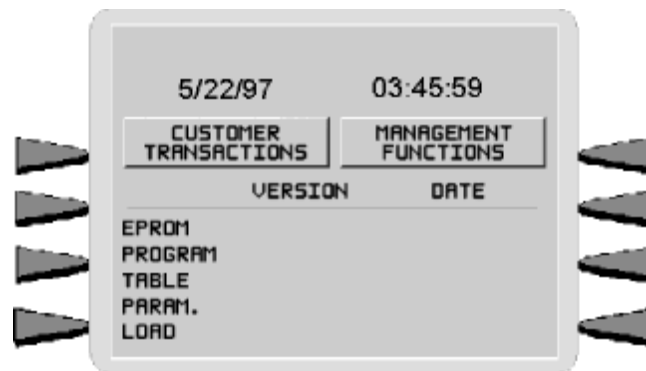

Figure 3-1. The TOP MENU display.
When the unit is turned on, the dispenser will beep once and the Top Menu, shown in Figure 3-1, will appear on the display screen after a few seconds. From the Top Menu, you can either:
1. The Customer Welcome screen shows an animation of a hand inserting and removing a card, with a message describing how to begin a transaction. If this screen is being displayed, press and hold down the <BLUE> key; while holding down the <BLUE> key, press the <1> key. Release both keys. After a moment the Top Menu screen (shown in Figure 3-1) will be displayed. Select the MANAGEMENT FUNCTIONS option.